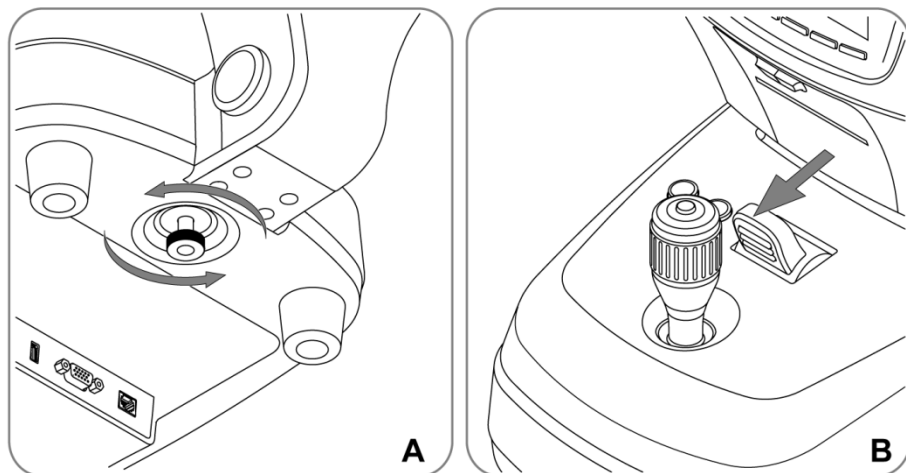

Fig. 6 Releasing the stage locking
- Release the stage locking by turning the clamping screw (1, Fig. 5) on the bottom of the device counterclockwise (A, Fig. 6).
- Now press the stage locking lever (4, Fig. 3) to the front (B, Fig. 6).